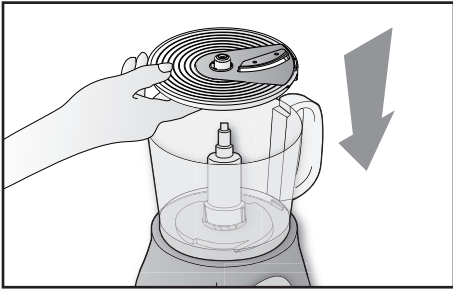

Fig. 10
- Fit the assembled blade support disc (R) on the motor shaft (C), gripping it by the relevant slots and keeping the blade so it is facing upwards (Fig. 10).
- Fit the lid (E) over the bowl (D) and proceed as described in the section "Chopping, mixing or whisking".